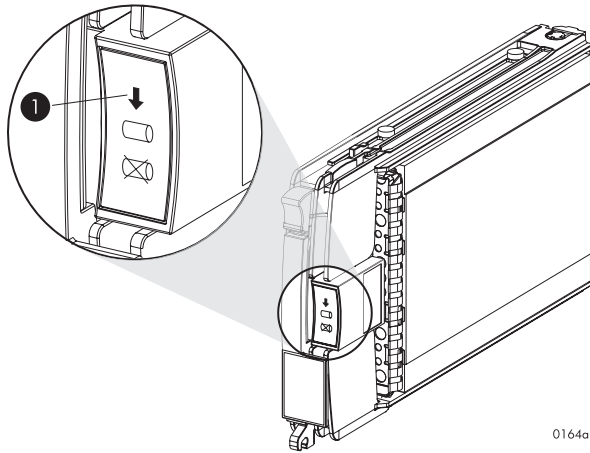

Figure 6 Disk drive activity indicator
When adding multiple disk drives, add a disk and wait for its activity indicator (1) to stop flashing (up to 90 seconds) before installing the next disk (see Figure 6). This procedure must be followed to avoid unexpected EVA system behavior.